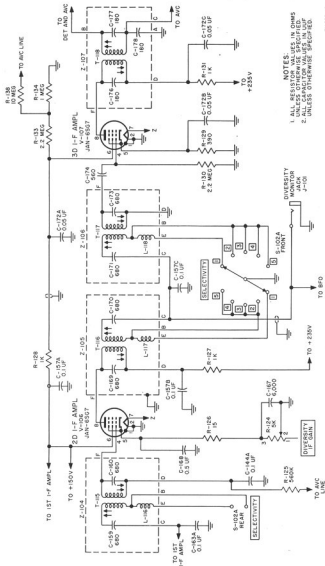

Figure 17. Second and third *i-f* amplifier stages, simplified schematic diagram.
41. Second I-f Amplifier Stage V-106 (fig. 17)
42. Third I-f Amplifier Stage V-107 (fig. 17)